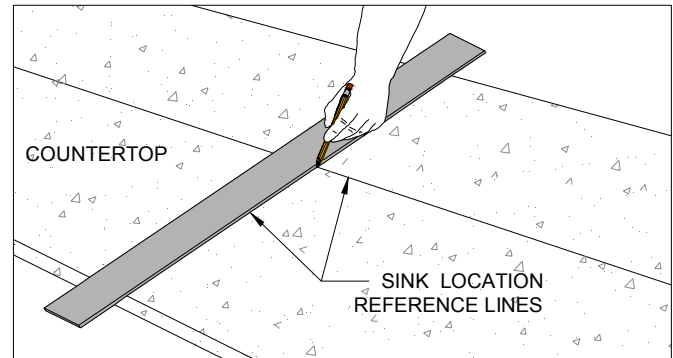

Figure 5A
- Locate where sink is to be installed on the top side of the countertop and draw reference lines. (FIG. 5A)